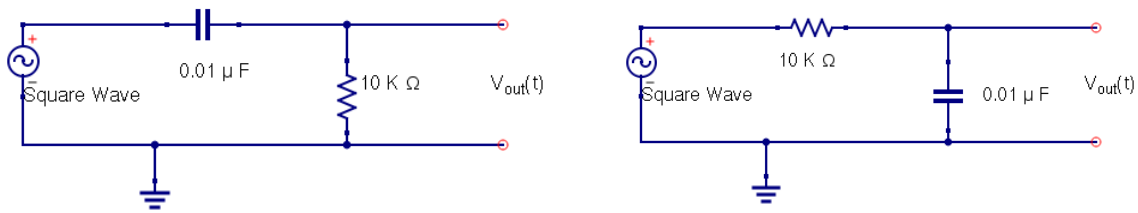
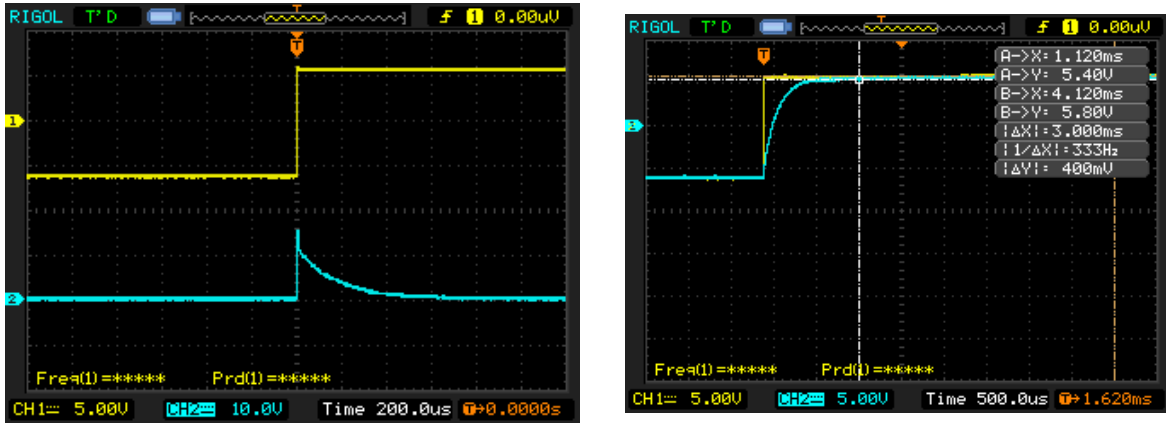

Figure 2: Left: RC based differentiator. Right: RC based integrator.
Figure 3: Left: Differentiator output (blue) for square wave input (yellow) . Right: Integrator output (blue) for square wave input (yellow).
Simple RC based differentiator and integrator (Figures 2) will be used to measure the time constant of a RC circuit. The output signal of such a RC circuit is proportional to $e^{-t/RC}$. The output signal for a square wave signal is shown in Figure 3. The time it takes for the output signal to reach the one half of the input voltage after a rising (or falling) edge is called $t_{1/2}$,
1. Obtain equations for output signal, $V(t)$ for RC and RL circuits shown in Figures 2 and 4
1. Calculate the time constant for the circuit on Figure 2-left
2. Calculate the capacitance (C) of the circuit using time constant measurement.
3. Build the circuit shown on Figure 2-left
13. Configure the oscilloscope to generate trace similar to Figure 3
19. Calculate the capacitance (C) of the circuit using time constant measurement.